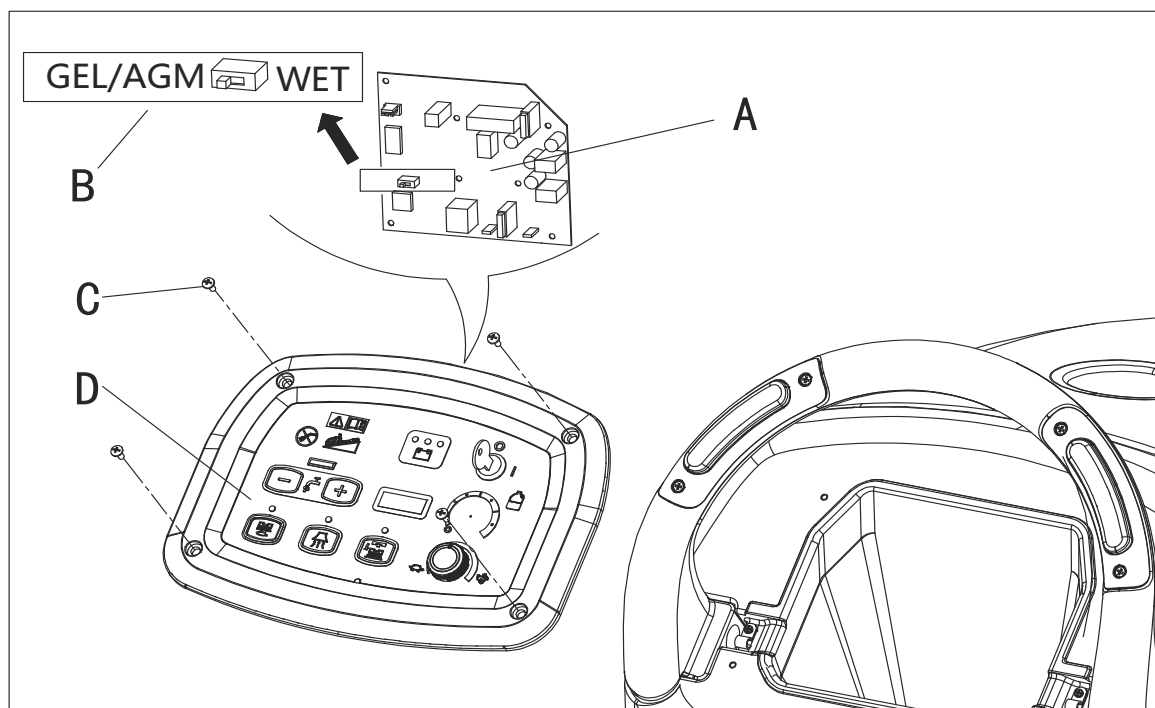

Figure 4
- Turn the ignition key (54) to "I" and in the very first seconds of machine operation pay attention to the following:
- If the green warning light (53) is flashing, the machine is set to GEL/AGM.
- If the red warning light (51) is flashing, the machine is set to WET.
- Remove the screws on control panel (C, Figure 4), then turn over the PCB (A, Figure 4) to find the DIP switch (B,Figure4) for setting battery type(WET or GEL/AGM).